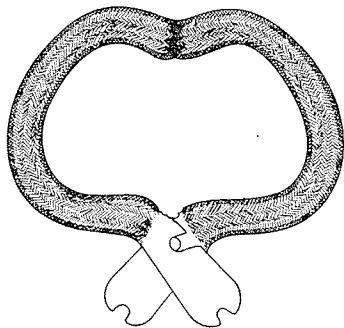
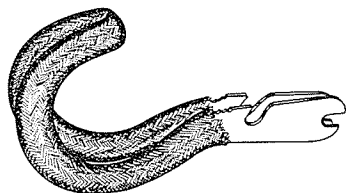

Fig. 11 – Pair of Sleeved Blades — Unfolded
Fig. 12 – Pair of Sleeved Blades — Folded
(2) Remove the sleeving from each pair of blades by grasping the sleeving at the inner end and working it toward the tip of the blade. At the same time, lift it alternately toward the inner and outer edges of the blade to disengage the sleeving from the notches on the blade.
(3) Resleeve the blades in pairs as shown in Fig. 11. Use 36A sleeving for sleeving the 402E cleaner and 36B sleeving for sleeving the 517A or 517B cleaner. Both the 36A and 36B sleeveings are cut to the correct length for these cleaners.
(4) Push the clean sleeving over the blade so that it is held securely by the notches in the blade. Then pull the sleeving toward the tip of the blade to stretch it tightly on the blade. Push the other end of the sleeving over the other blade of the pair in a similar manner. Make sure that the sleeving is equally distributed on each blade and that the tips of the blades, when in the position shown in Fig. 11, are in contact. Then fold each pair of blades together as shown in Fig. 12. Insert them in the handle from the rear (the code number of the tool is on the front of the handle), so that the slots in the lower ends of the blades engage the anchor pin. Swing the blades forward until the ends of the upper slots in the blades are in contact with the screw in the handle. Make sure that the sleeving is taut.
(5) Remount the blade support with the anchor pin engaging the hole in the end of the support. Then force the support forward under the thumb nut or screwhead as far as the slot will permit. The blade support tapers slightly. Thus, if the thumb nut or screwhead is set so that the open end of the slot of the support will just go under it, the act of forcing the support forward will wedge it between the nut or screwhead and the handle.